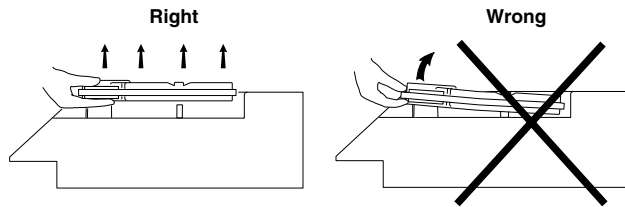

Figure 9-1: Removing the Carrier
8. Remove the carrier by placing your hands under it, palms up, and firmly lifting straight up. Apply sufficient upward force to free tape guides from posts. See Figure 9-1.
4. Open the tape load lever and carefully remove carrier (See Figure 9-1).